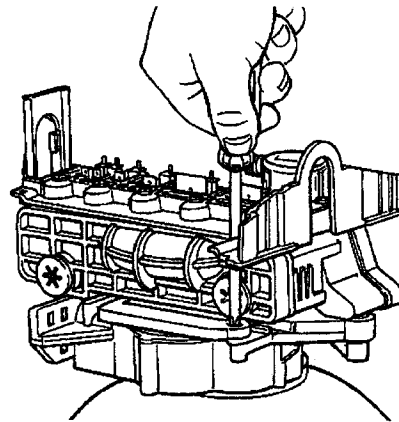

Figure 15
4. Remove the locking bar screw, Figure 15.